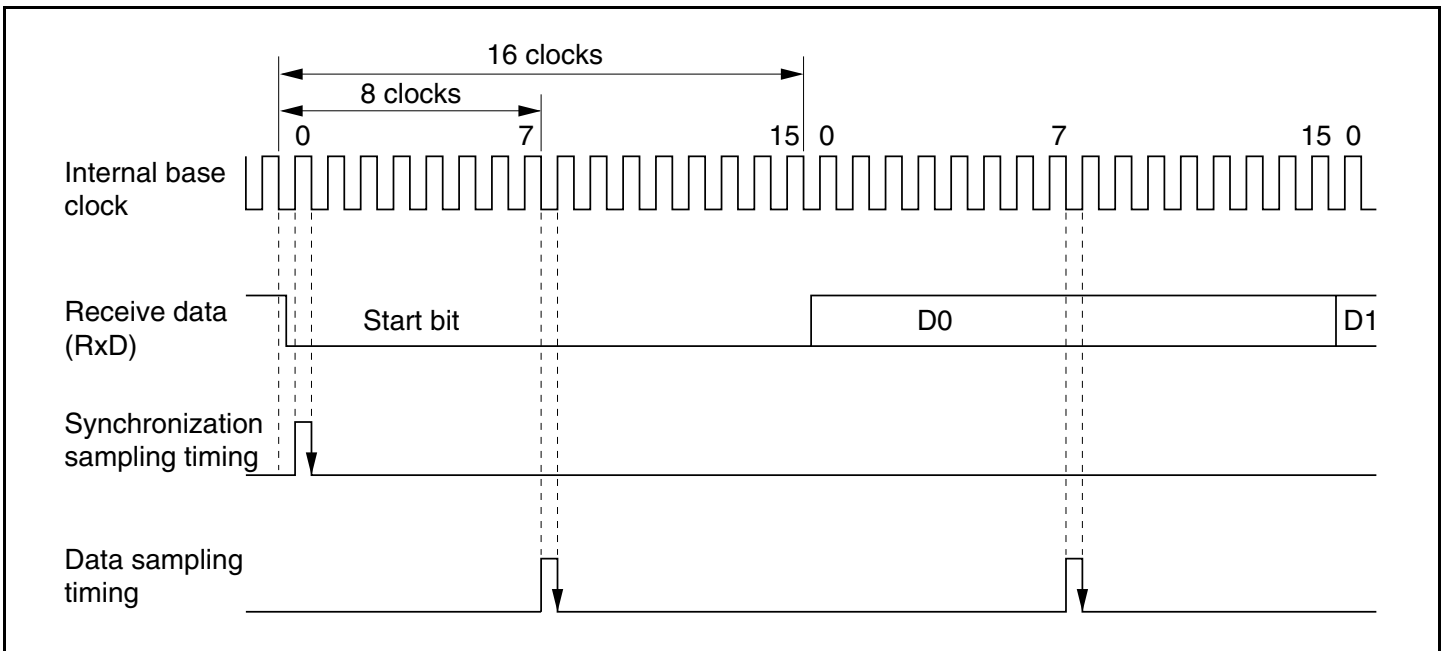

Figure 15.3 Receive Data Sampling Timing in Asynchronous Mode
In asynchronous mode, the SCI operates on a basic clock with a frequency of 16 times the bit rate. In reception, the SCI samples the falling edge of the start bit using the basic clock, and performs internal synchronization. Receive data is latched at the middle of each bit by sampling the data at the rising edge of the 8th pulse of the basic clock as shown in figure 15.3. Thus the reception margin in asynchronous mode is given by formula (1) below.